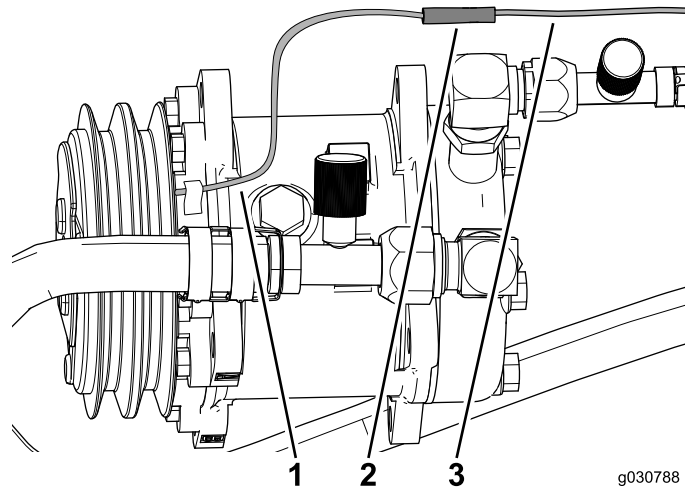

Figure 49
3. Connect the wire from the air-conditioner compressor to the bullet connector on the wire harness (Figure 49).